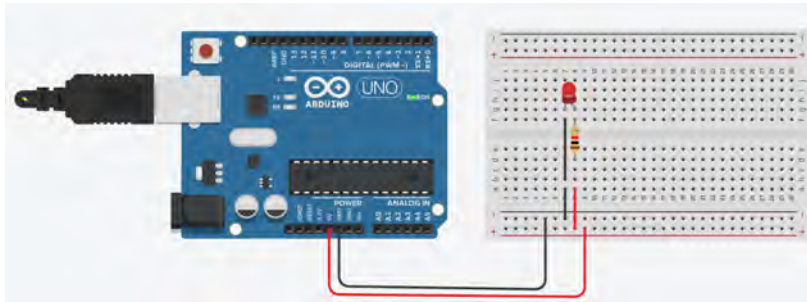

Figure 13.4: Adding a Resistor
11. Add a resistor of  $1k\Omega$  (which is the default). Connect them as shown in Figure 13.4. Then, start simulation. Now you should have a healthy working LED.